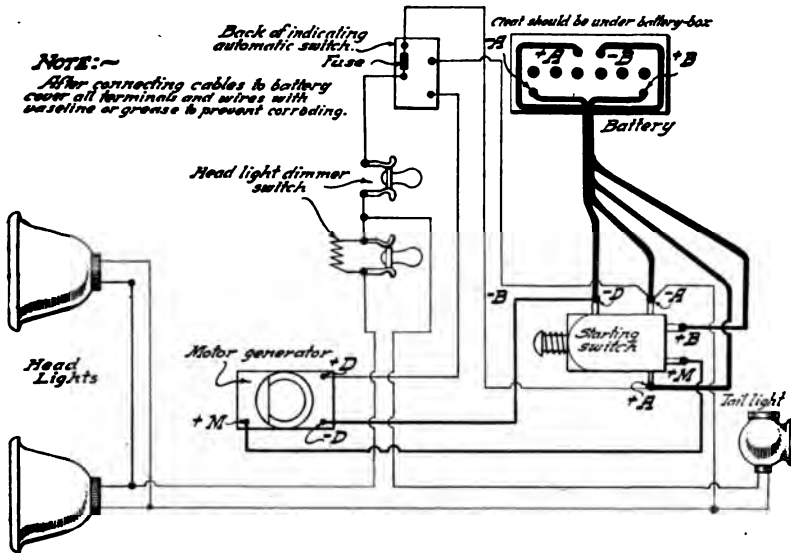

Fig. 418. Complete Wiring Diagram for Splitdorf Ford Installation
Place the battery in the box with the outside terminals toward the car. Pass the extension cables under the wood sill of the car body and over the channel steel frame of the car, connecting the extension leads from the battery to the starting switch, as marked. The method of passing the cables around the sill and frame are shown in Fig. 418. After connecting the cables to the battery, cover all the
**Wiring Diagram.** In the wiring diagram, Fig. 418, double wiring is used throughout, so that there are no ground connections. When the engine is running so that the unit is operating as a generator, the current flows from terminal +D on the generator to a similarly marked terminal on the indicating switch, through the voltage coil of the battery cut-out, and thence to the terminal +A on the switch, where it divides, one side leading to +A on the battery and through the battery to -A on the starting switch. The other half of the current flows through a jumper in the switch to +B on the starting switch, through to the same terminal on the battery, and through the battery to -B on the starting switch. It will be noted that